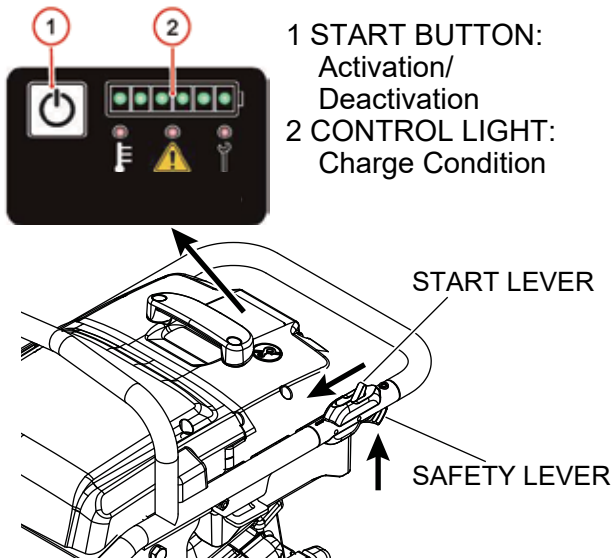

Figure 9. Start Lever
1. Set the Start Lever to the OFF position (Figure 9).